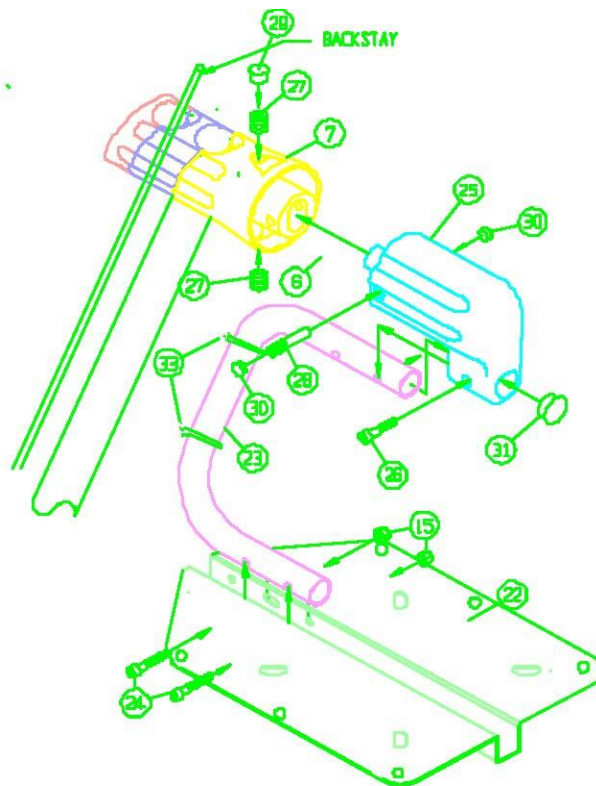

FIGURE 9
P. Assemble the Radar Antennae Mounting Plate (22) to the Cradle Tube (23) using the two Allen Head Cap Screws (24) and two Self Locking Nuts (15) (Figure 9).
Q. Insert the Cradle Tube (23) into the Damper Assembly (25) and screw in the Allen Cap Screw (26). Do not tighten at this time, ((Figure 9).
R. Install the two Setscrews (27) into the top and bottom holes of the Pivot Base Cone (7) until the screws are flush with the holes. Install the Damper/Cradle Assembly into the Pivot Base Cone (7). Apply Loctite to the threads on the Pivot screw (28) and install through the hole in the side of the Pivot Damper Assembly (25), and firmly screw it into the Pivot Base Cone (7).
S. Be sure the backstay is tensioned to its normal position. Adjust the top leveling Setscrew (27) until the Mounting Plate (22) is level fore and aft. Remove the Mounting Plate from the Cradle Tube (23) and secure the lower adjusting Setscrew (27) until the Pivot Damper shaft is firmly clamped between the two adjusting Setscrews. Insert the medium plug (29) in the top adjusting Setscrew hole of the Pivot Base Cone (7) (Figure 9).